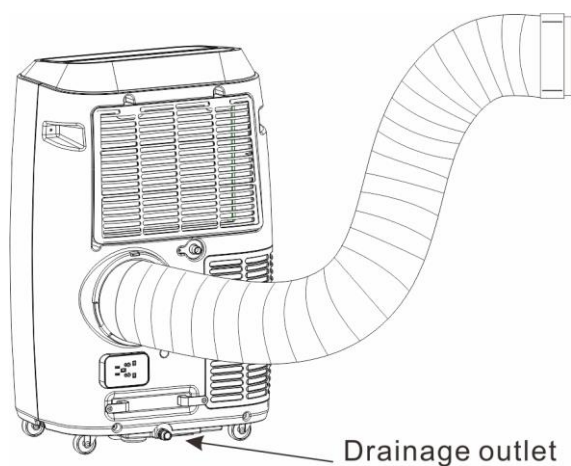

Fig.6
- If water splash motor is damaged, continuous drainage can be used. To connect the drain hose to the bottom drainage outlet (Fig.6), the unit will also work well.